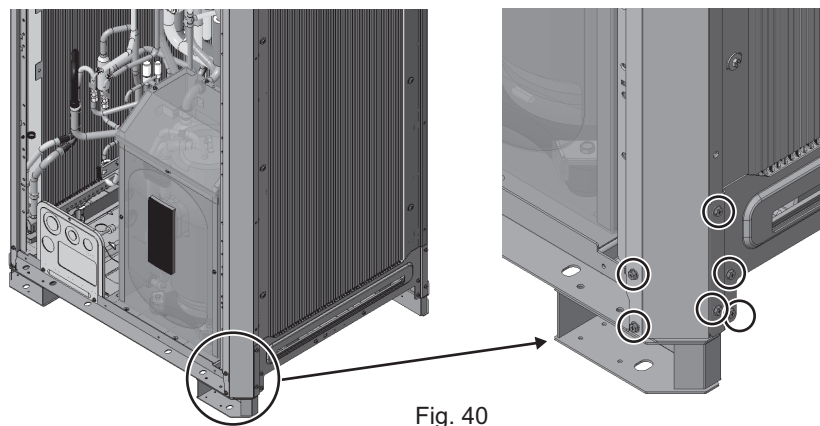

Fig. 40
(3) Remove the screws that secure the right pillar on the front side and remove the pillar. (Six screws: Fig. 40)